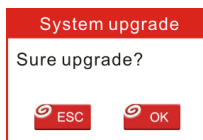

Figure 8
11. Once all steps are complete, reinsert the TF card into the tool and power the tool via USB in computer or via OBD2 port in vehicle. The tool will prompt you to upgrade, click "OK" to start updating and a progress bar will appear. It may takes several minitues to finish update if your upgrade package file is too large, please wait. (Figure 8)